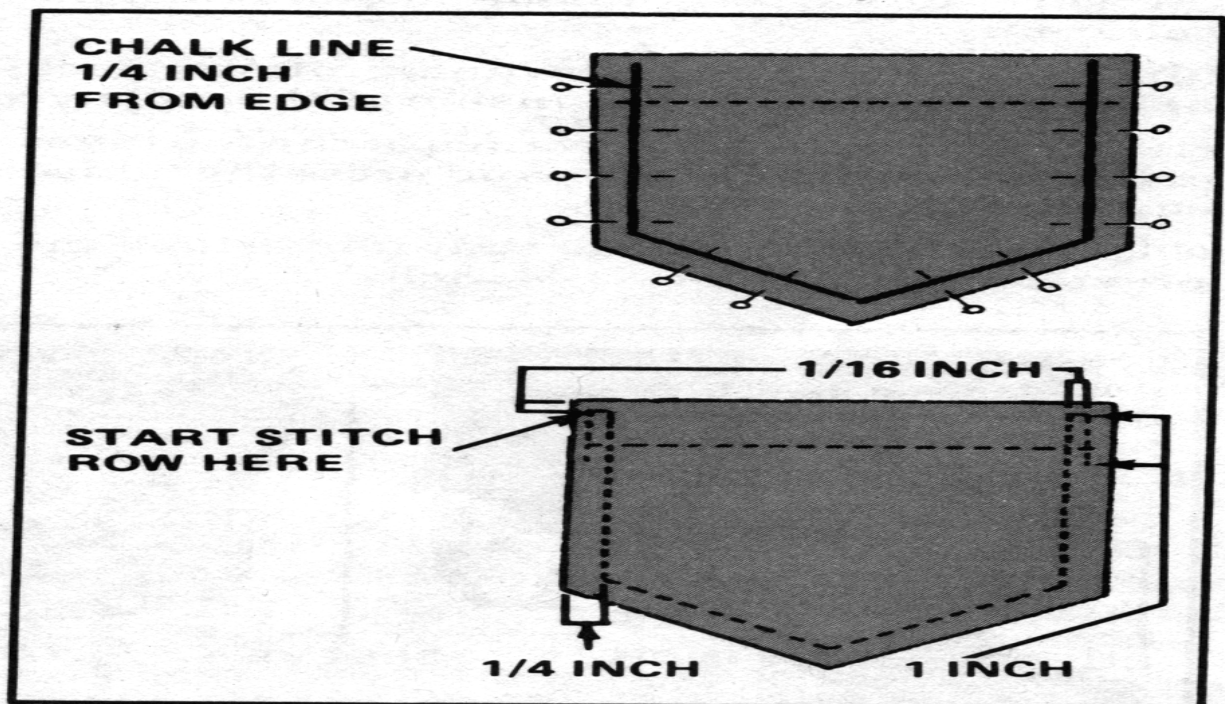

Figure 4-20. Replacing a patch pocket
- a. Replacing a Patch Pocket. To replace a patch pocket (Figure 4-20)--
- (1) Remove the damaged pocket by cutting through all the stitches holding it in place. Do not cut the underlying fabric of the garment. Clean away all loose threads. Place the garment faceup on the worktable.
(2) Obtain a matching replacement pocket. Use one salvaged from a similar garment that has been scrapped, or make one from cloth using the old pocket as a pattern. Match the fabric fading as closely as possible.
(3) Place the new pocket faceup on top of the garment. Cover the same area that the old pocket covered. Pin the pocket in place.
(4) Measure and mark a chalk line 1/4 inch from the folded edge on all sides of the pocket except the top.
(5) Position the pocket and the garment under the needle of the sewing machine.
(6) Stick the needle into the pocket 1/16 inch down from the right side of the pocket.
(7) Stitch down 1 inch and then back up to the starting point to tack the seam.
(8) Pivot the cloth on the needle, and take one or two stitches to the chalk line.
(9) Pivot the cloth on the needle, and stitch around the pocket on the chalk line. Pivot the cloth on the needle at the corners.
(10) Pivot the cloth on the needle 1/16 inch away from the top edge of the cloth. Take one or two stitches so that the needle is now 1/16 inch away from the side of the pocket.